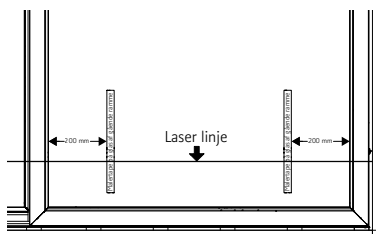

Figure 13: Laser position 0 – apply tape to sash
18. Place vertical masking tape on the glass on both sides of the master sash, centered above the wheels, at a height that intersects the laser beam (figure 13).